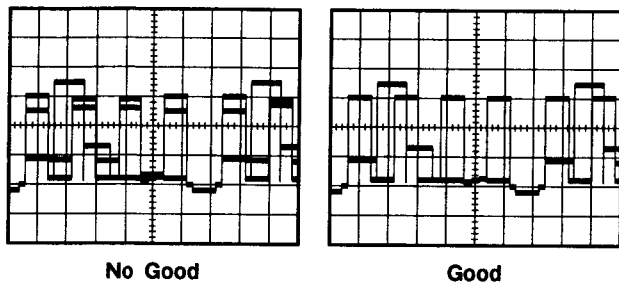

Fig. 5-1-20
- Adjust VR23 so that the Video signal level becomes flat level as shown in Fig. 5-1-20.